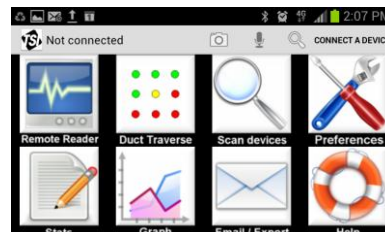

Figure 4. LogDat Mobile Main Screen
- c) Once “**Connected**,” LogDat Mobile can be utilized and will appear (Figure 4).